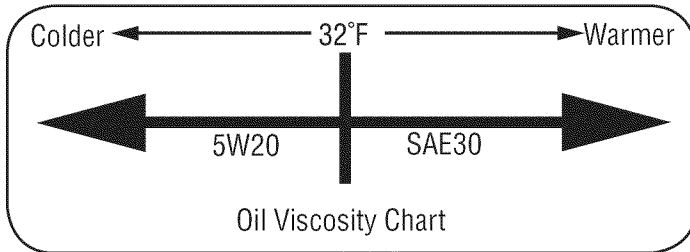

Figure 9
2. Remove the oil fill cap/dipstick from the oil fill tube. See Figure 9.